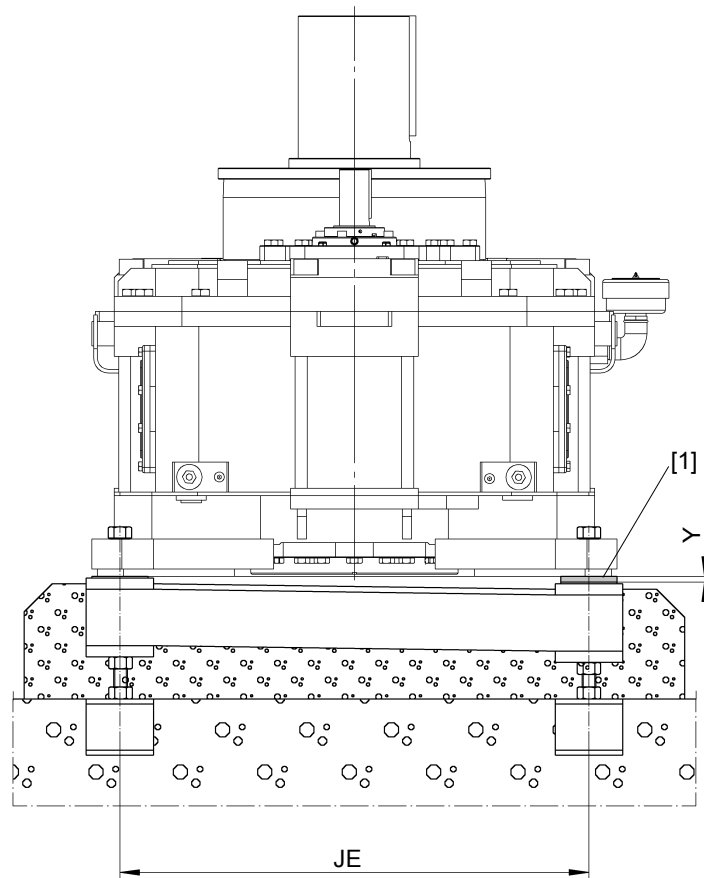

Figure 10: Mounting accuracy when aligning
1. Mount the components according to Sec. "Gear unit foundation". The shims [1] (→ Figure 10) facilitate later adjustment and, if necessary, to mount a replacement gear unit.